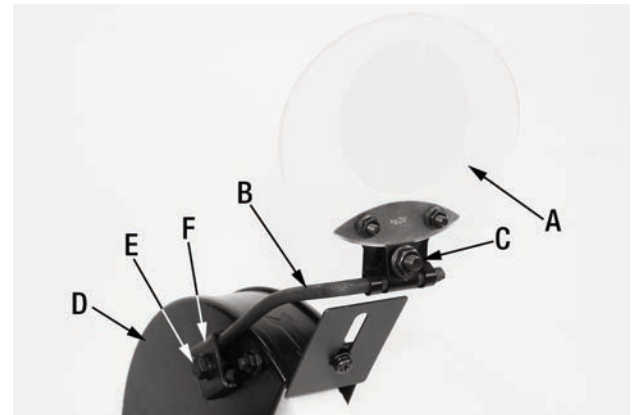

FIGURE 5
1. Attach the eye shield (A) Fig.5 to the eye shield rod (B) using a carriage bolt and hex. nut (C). Repeat for the other side.
2. Attach the curved end of the eye shield rod (B) Fig.5 to the grinding wheel guard (D) using a hex. bolt (E), washer, clamp bracket (F). Screw the hex bolt (E) into the threaded hole on the inside of the grinding wheel guard (D).
3. Secure the eye shield in place by tightening the hex. bolt (E) Fig.5 and carriage bolt and hex. nut (C).